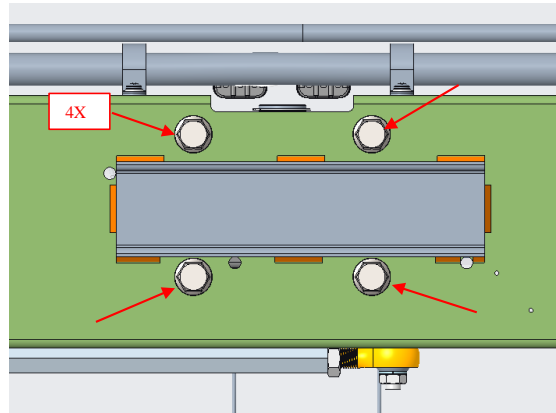

Figure 6: Operator Mounting Screws
- H.7. Locate back side of baseplate and carefully remove 4 Hex Flange Bolts to remove operator from baseplate, shown in Figure 6. Save the 4 screws for reinstallation.
- H.9. With new Operator installed with Sensor Bracket, mount back onto backplate using screws from Step H.7. Torque to 23 FT-LB, apply torque stripe. Refer to Figure 6.